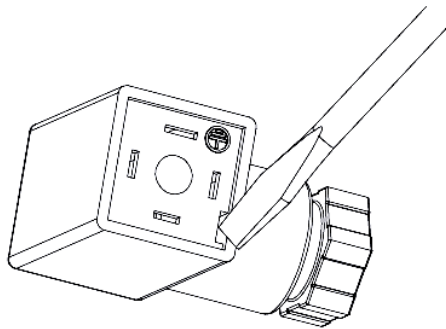

Figure 9: Removing the insert from the DIN plug
2. Insert a small screwdriver into the small depression at the edge of the insert and press the insert out of the external sleeve of the DIN plug (see figure 9).